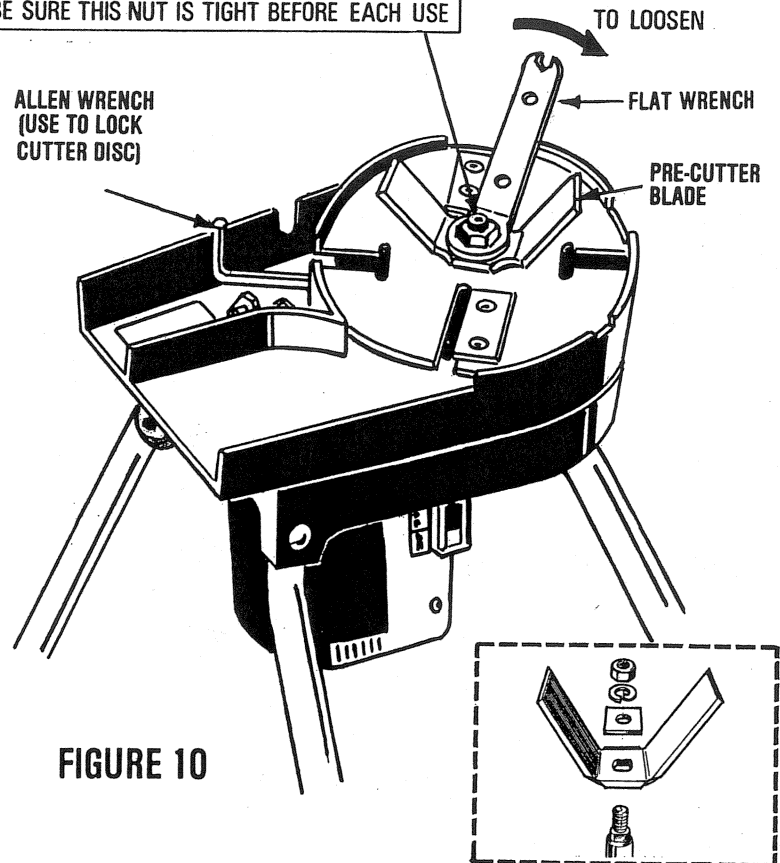

FIGURE 10
10. CHECK SHREDDER FOR LOOSE BOLTS, nuts, etc. before each operation. (See Figure 10)
## CHANGING THE PRE-CUTTER BLADE (See Figure 10)